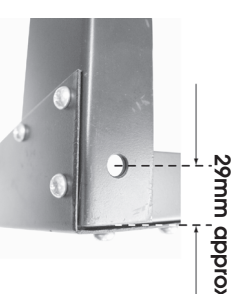

Fig. 3
2. Fit other cross members with single holes 29mm from ends to leg assemblies (see Fig. 3) using, 6 off screws ('A'), 6 off washers ('C') and 6 off nuts ('D') per cross member, finger tight only.